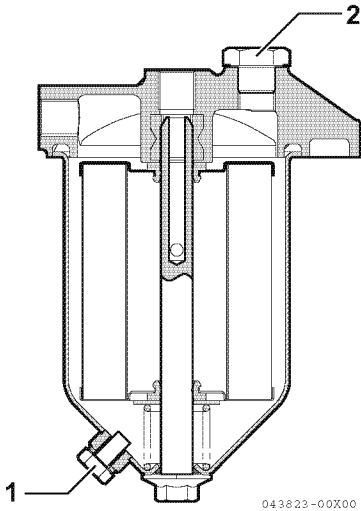

Figure 10
2. Loosen the drain plug (**Figure 10, (1)**) of the water separator and drain off any water or dirt collected inside. Dispose of the collected water and dirt properly.
3. After draining, tighten the air bleed screw (**Figure 10, (2)**).